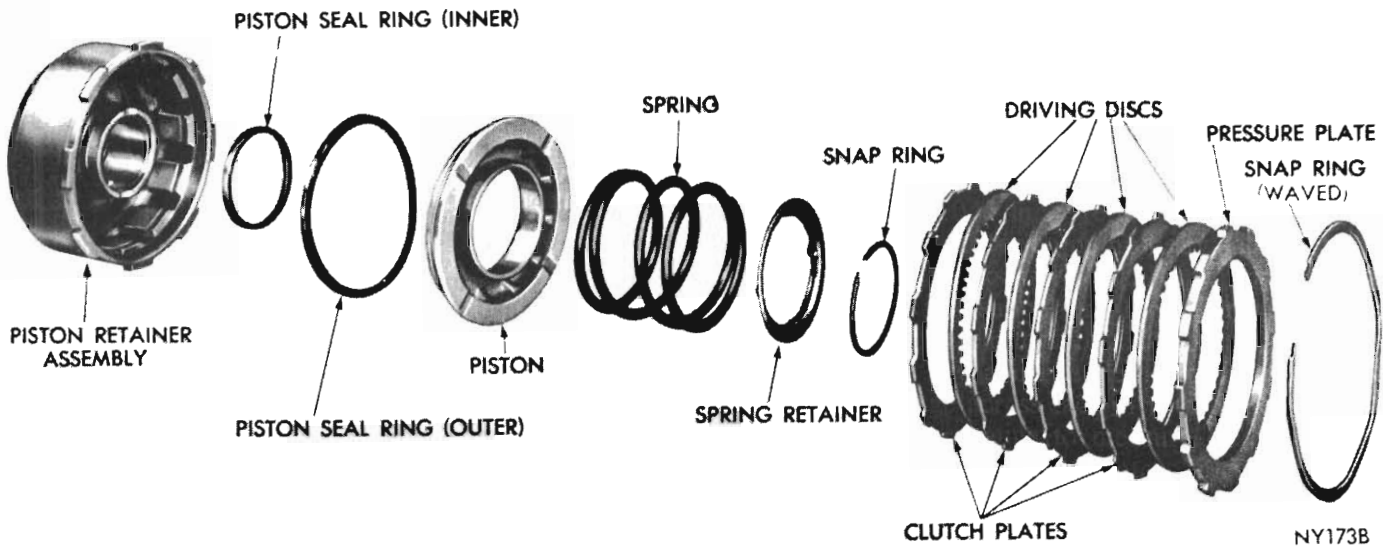

Fig. 70 - Front clutch disassembled (A-904)
Figure 70 shows a disassembled view of the front clutch assembly.
(1) Lubricate and install inner seal ring on hub of clutch retainer. Make sure lip of seal faces down and is properly seated in the groove (Fig. 70).